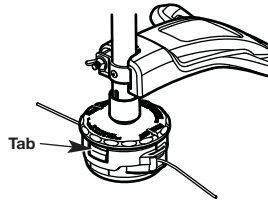

Fig. 19
- Firmly press in on the tabs that are on each side of the cutting head. (Fig. 19)